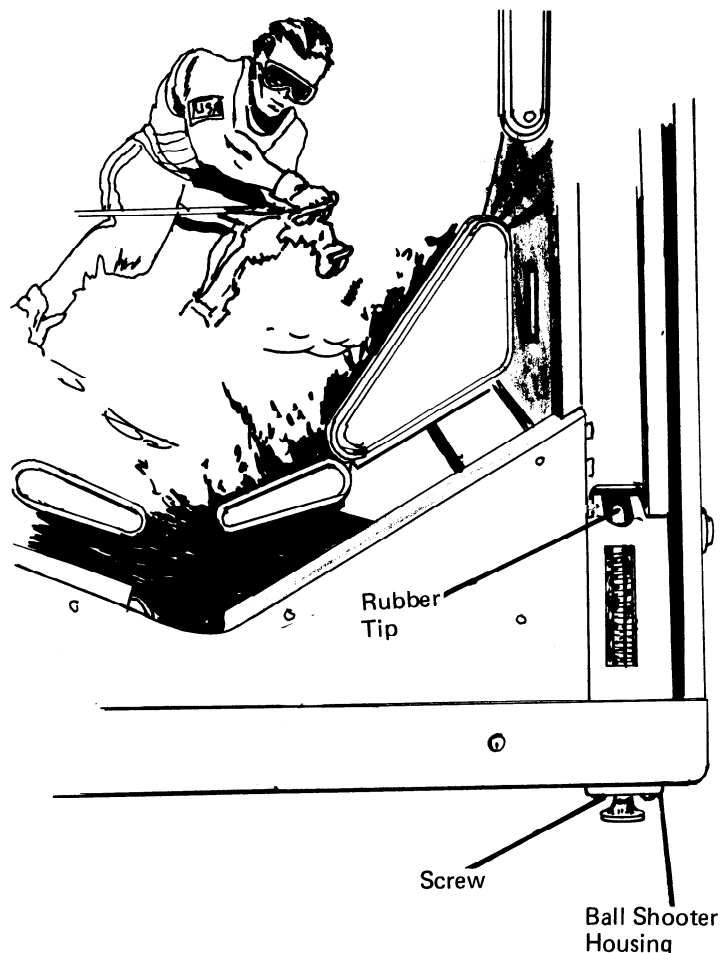

FIGURE 15
16. Check ball shooter tip to insure that it is firmly in position and not worn beyond use (Figure 15).
18. Screws holding the ball shooter may be loose (Figure 15). Tighten screws as required. Take care not to tighten the screws to the point of breaking the ball shooter housing.
19. Is the ball shooter aligned correctly in the cabinet? (Figure 15). Shooter alignment may be changed by placing a shim (Small spacer like a washer) between the shooter housing and cabinet as follows: